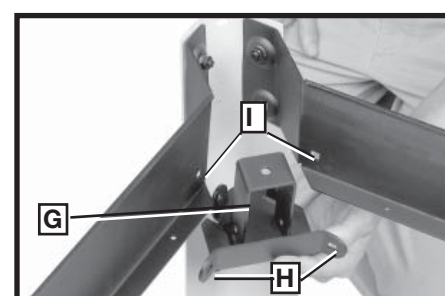

Fig. 10
6. Take corner bracket (G) Fig. 10 with the closed end and align holes (H) with holes (I) in the leg supports. **NOTE: MAKE SURE THE CLOSED-END BRACKETS (G) ARE ATTACHED TO THE LONG LEG SUPPORT WHICH HAS THE THREE HOLES IN THE MIDDLE, AS SHOWN IN FIG.13.** It may be necessary to take a soft hammer (or a regular hammer and block of wood) to tap in the corner bracket to align holes, as in Fig. 11.